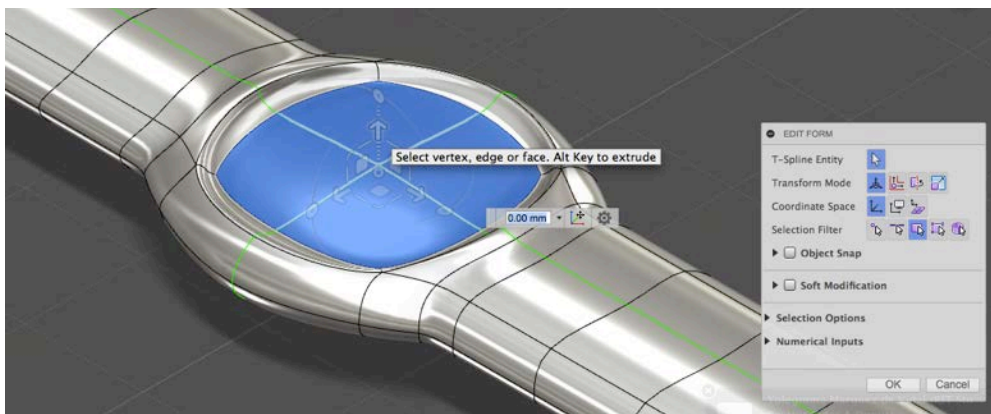

Fig. W07
6. Create bezel edge by scaling up the faces while HOLDING ALT KEY. Then move down and scale as desired (Fig. W07).